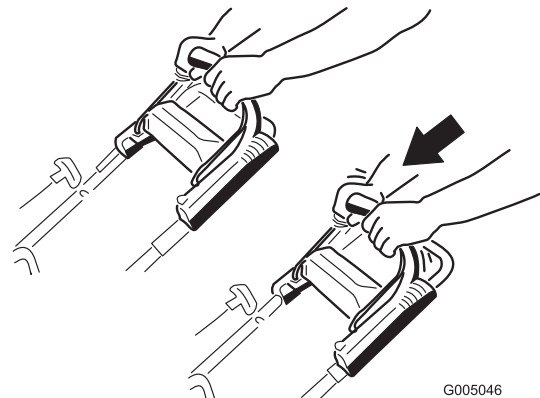

**Figure 15**
2. Pull the recoil starter lightly until you feel resistance, then pull it sharply (Figure 15). Allow the rope to return to the handle slowly.